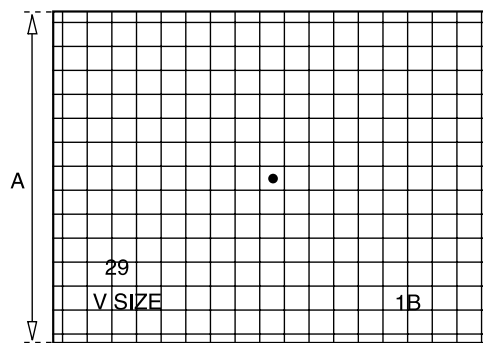

Fig. 3-5
- Use the volume keys on the jig remote controller and adjust A to position the dot mark in the center to the exact vertical centre of the crosshatch pattern on the screen and regularize the squares of the crosshatch pattern. (Fig. 3-5)